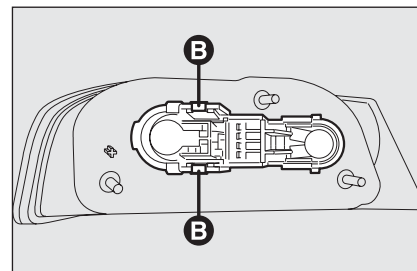

fig. 39
- ☐ remove the bulb holder unit by pressing the retaining tabs **B-fig. 39**;
- ☐ refit the bulb holder unit securing it properly using the retaining tabs **B-fig. 39**;